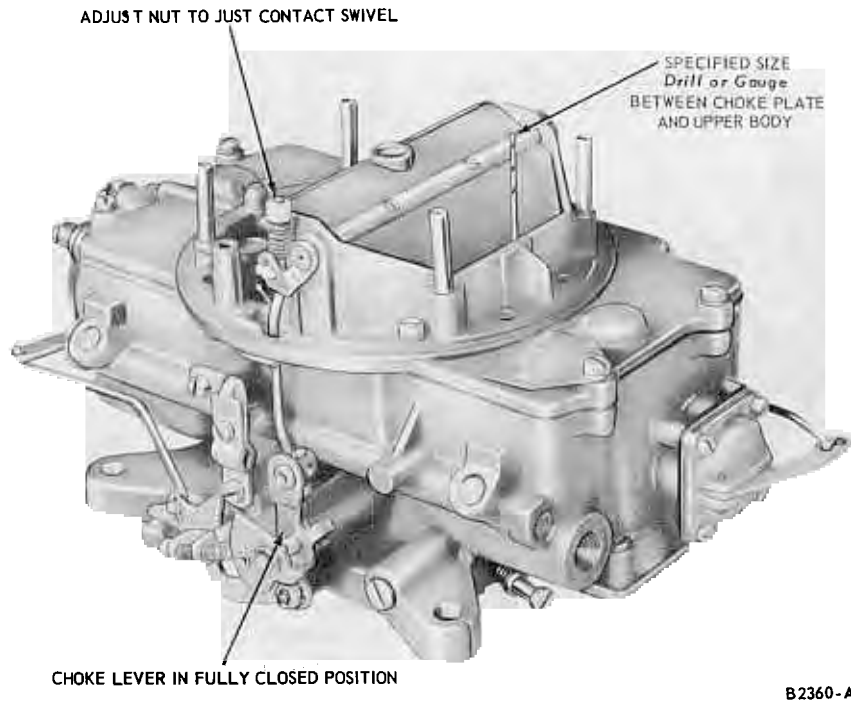

FIG. 11—Manual Choke Plate Clearance (Pull-Down) Adjustment—Ford 4-V
2. Pull the choke cam and lever to the full choke position. Insert the specified size gauge or drill (Part 10-8) between the downward side of the choke plate and the air horn wall. The gauge or drill will open the choke plate against the pull-down spring tension. Adjust the choke operating (pull-down) rod adjusting nut to just contact the plastic swivel (Fig. 11).